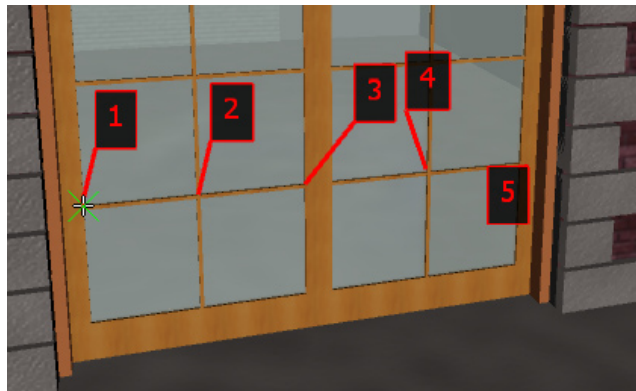

Figure 3-42 The cursor placed at point 1
- Place the cursor on point **1** and click when the snap to vertex cursor appears, as shown in Figure 3-42.